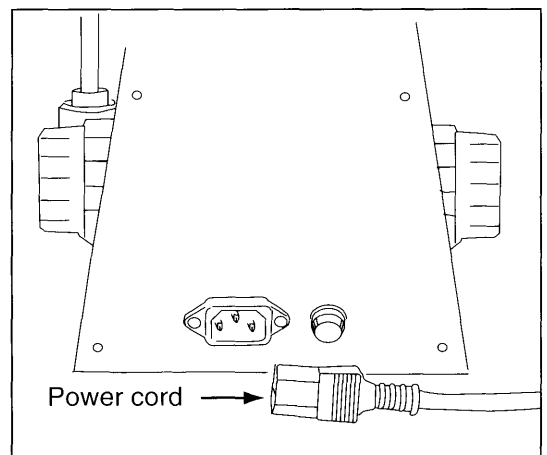

Figure 5
- Plug the power cord into the microscope and the other end into a grounded outlet. (Fig.5)